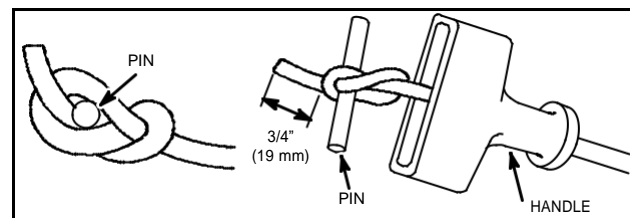

Fig. 11 – Install Rope
A rope inserter tool may be made by using a piece of music wire or spring wire, and forming it as shown in Fig. 11. If re-using old rope, burn pulley end of rope with a match. Wipe with waste cloth, using caution, while it is still hot, to prevent swelling and unraveling.
5. Tie a knot in rope and pull tight. Position knot so it can be pulled down into knot cavity, Fig. 11.